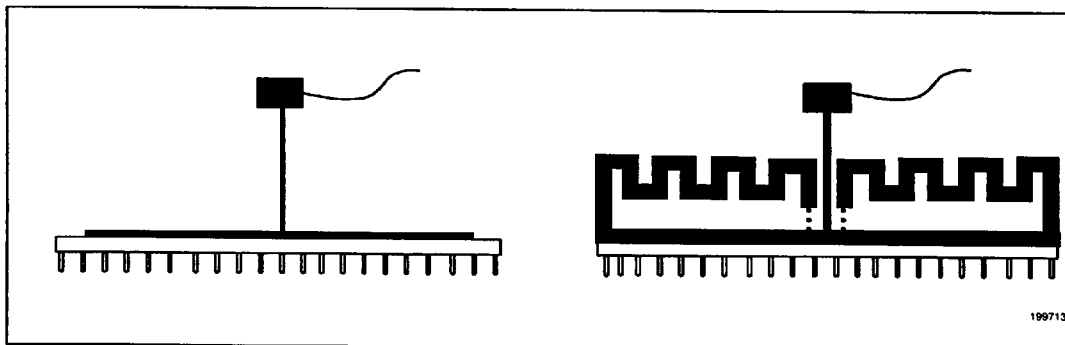

Figure 15. Technique for Measuring T_C *
without a heat sink attached. When a heat sink is attached, a hole (smaller than 0.150" diameter) should be drilled through the heat sink to allow probing the center of the package. See Figure 15 for an illustration of how to measure T_C .
- The thermocouple should be attached at a 90-degree angle as shown in Figure 15.